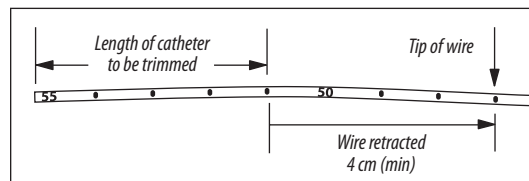

Figure 4
- To trim catheter with Catheter Trimmer, retract placement wire 1-1/2 inches minimum (4 cm) behind where catheter is to be cut. The placement wire is to be withdrawn through septum (see Figure 4).